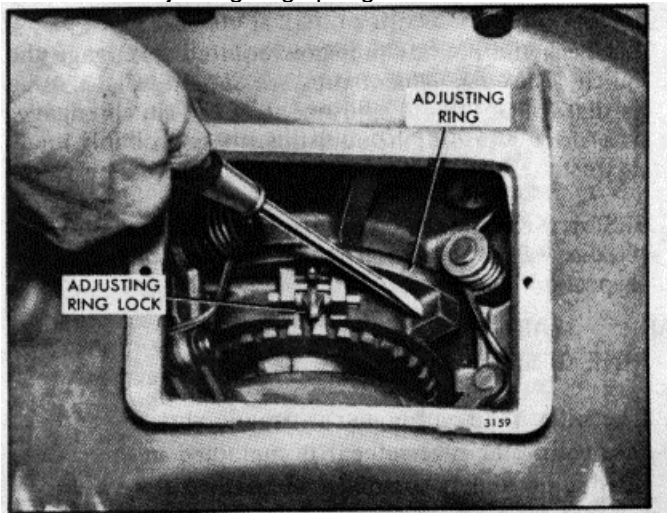

Fig. 11. Power Take-Off Assembly Showing 14 Inch Diameter Clutch Adjustment Ring
5. On the 14" diameter single and double plate clutches, raise the end of the adjusting ring lock up out of the splined groove in the hub of the outer clutch pressure plate. Then, while holding the clutch drive shaft to prevent the clutch from turning, turn the clutch adjusting ring clockwise as shown in Fig. 11 and tighten the clutch until the desired pressure on the outer end of the hand lever, or at the clutch release shaft (Fig. 13), is obtained as shown in Table 1.